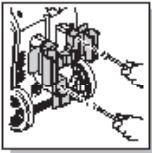

Fig. 1
- Install the accessory holder on the back of your washer (Fig. 1). You’ll notice where the accessory holder meets the back of the unit. You will see posts and holes enable easy placement of the accessory holder and easy tightening of the screws. Place the screws in the holes provided on the accessory holder and screw them in. Do not use power tools, hand tighten instead.
- Using one of the supplied screws, install the small electric power cord holder below the accessory holder so that the “L” - shaped holder faces downward. The electric power cord can now be wrapped around the accessory holder and the bottom “L” - shaped holder while your power washer is not in use (Fig. 1).